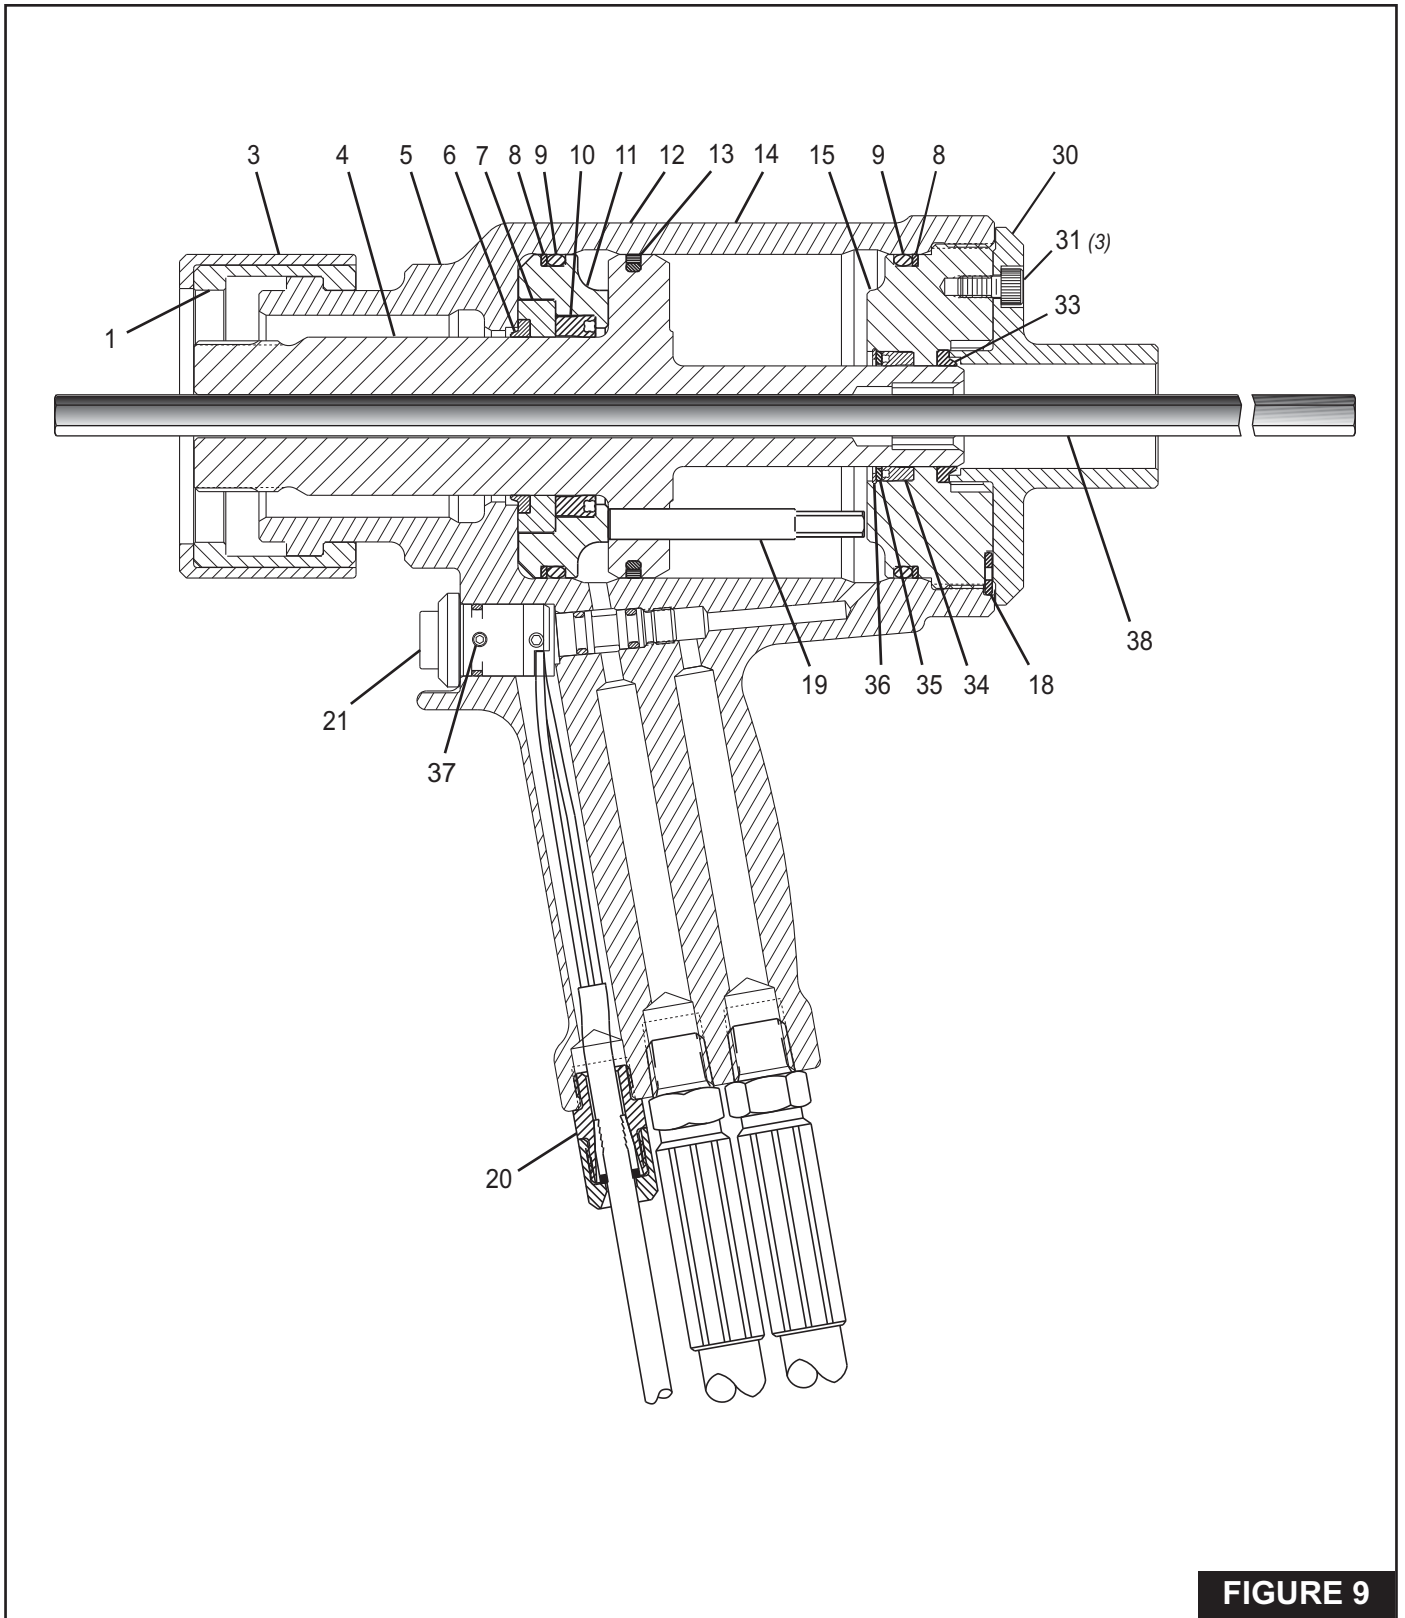

FIGURE 9
Model 2624HS: (Figure 9)
- Model 2624HS:** (Figure 9)